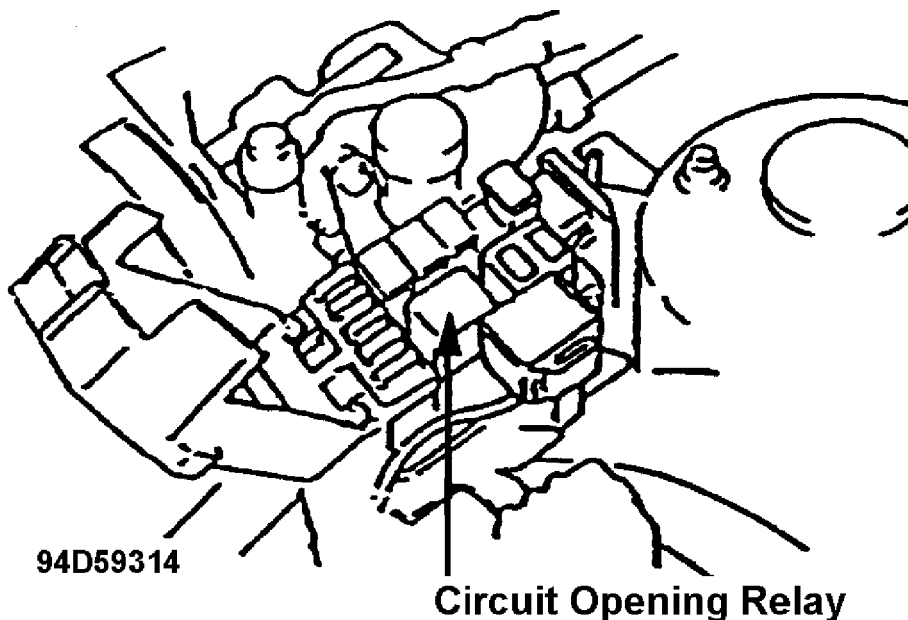

Fig. 1: Location of Circuit Opening Relay
2. Remove the circuit opening relay. See Fig. 1.